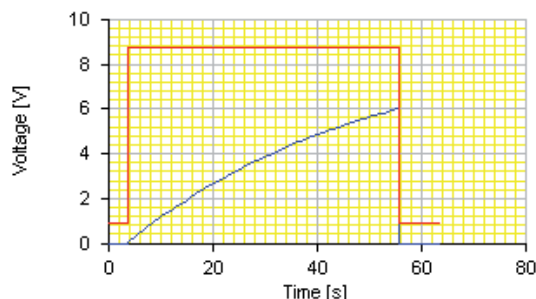
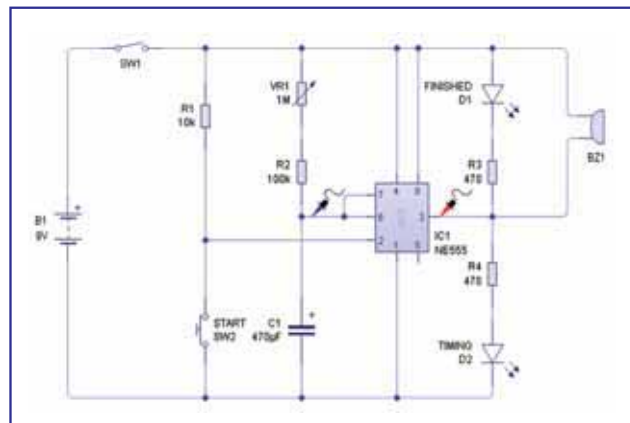

Fig.7.13. Sample trace for the kitchen timer circuit
Fig.7.12. Kitchen timer using a 555 in a monostable configuration
**O**UR first practical circuit uses the 555 timer configured as a monostable to operate as a kitchen timer, as shown in Fig.7.12. When SW1 is closed the buzzer will sound until SW2 is pressed to start the timer. The two probes help us to see the charge building in C1 and the status of the output. A sample trace is shown in Fig.7.13. This is particularly useful for testing long delays where the circuit may seem to be inactive.